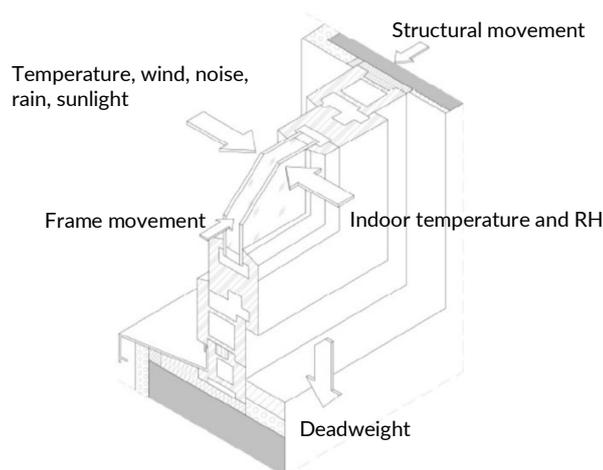

Fig. 1. Operating loads of a window
3. Transfers the operating loads from the window casements to the building wall (ref. Fig. 1).